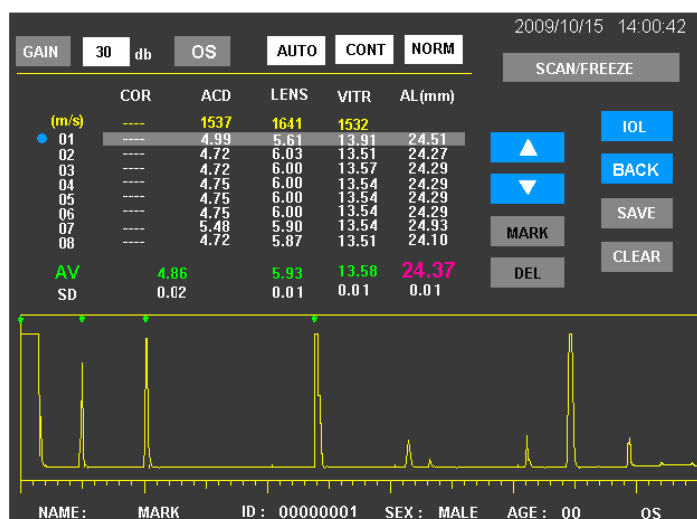

Figure 4.24 Measuring Data Display Interface
The EUS-1800A has the function of saving and displaying the measuring data. The saved measuring interface and data at the time of measuring can be loaded according to the operator's selection, which is convenient for observation and analysis. See Figure 4.24.
- 3) Under the Measuring Data Display Interface of ASCAN (see Figure 4.24), the data group can be selected and the measuring waveform be displayed by controlling the up and down keys. The Measuring Data Display Interface displays the measuring result saved initially but can not make amendment for the saved data and waveforms, and without measuring functions. The threshold value can be observed but not be amended. Under the Measuring Data Display Interface, it is able to enter the IOL Interface by clicking **IOL** to check the saved data or input the parameters for recalculation. The newly input parameters and calculated result can't be saved. If measurement or storage of new data is required, please return to the normal working interface.